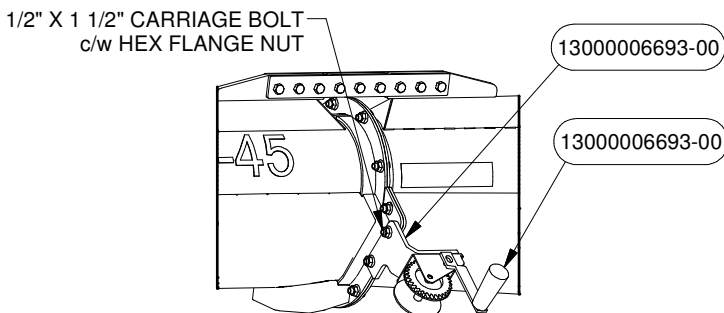

FIGURE 23
2. Mount the Winch PN# 6693 to the Tube Flange using Carriage Bolts c/w Hex Nuts as shown in Figure 23.